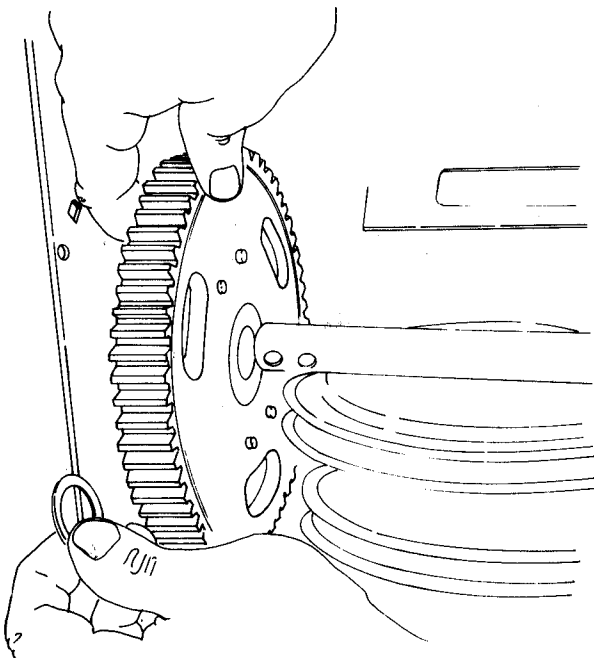

FIGURE 3.30 — PULLING DRIVE GEAR
STEP 2: Hold the drive gear to prevent it from falling then slide the axle out toward the right side until the end clears the gear. If the axle does not have to be replaced, install the replacement gear and thrust washer (between gear and frame — Figure 3.30) then slide the axle back through to the left. Install the roll pin in the axle on the right side to complete the gear replacement procedure.